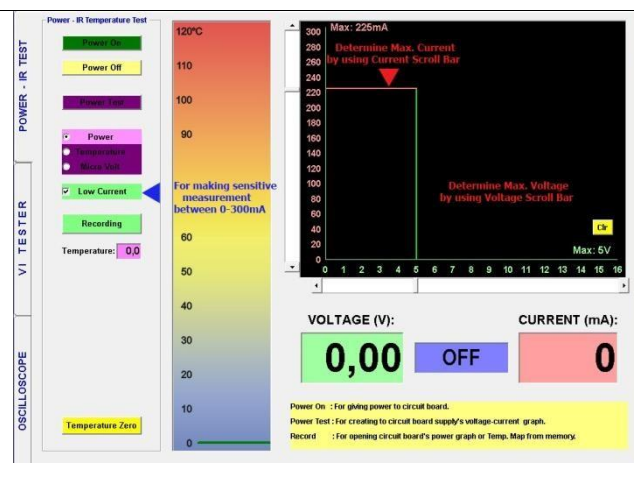

Figure 17: Adjusting the Voltage and Current (Step 2)
2. The maximum Voltage and Current values which the circuit operates on are adjusted from the scroll bars. (Figure 17)